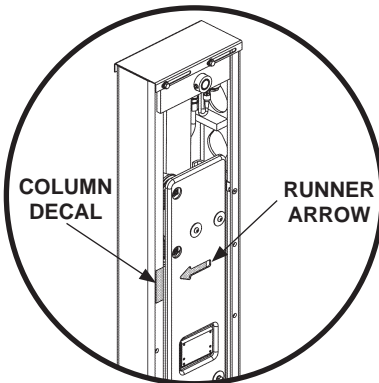
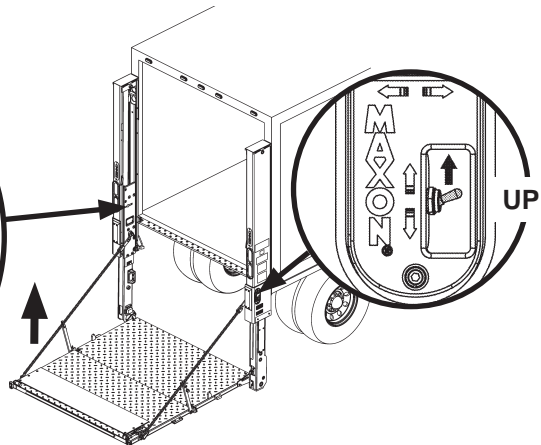

FIG. 24-2B
FIG. 24-2A
1. Use the column switch to raise (UP) platform (**FIG. 24-2A**) until runner arrow and column decal on LH column are aligned (**FIG. 24-2B**).